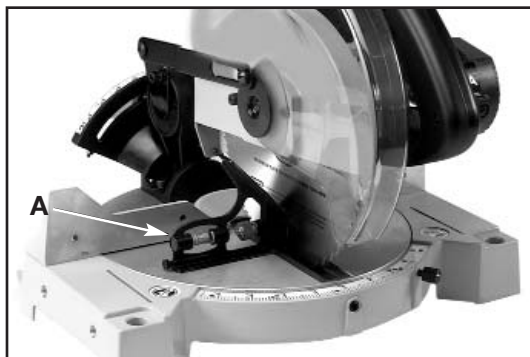
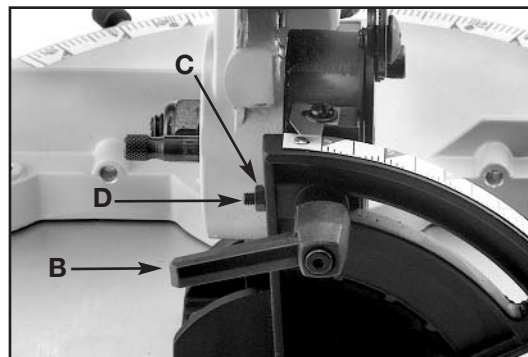

Fig. 22
Fig. 23
1. Move the cuttinghead to the 90 degree bevel stop position (Fig. 22), and tighten the bevel lock handle (B) Fig. 23.
2. Place one end of a square (A) Fig. 22 on the table and the other end against the blade. See if the blade is 90 degrees to the table.
3. To adjust, loosen bevel lock handle (B) Fig. 23 and tilt cutting arm until the blade is 90 degrees to the table. **NOTE:** It may be necessary to loosen locknut (C) and set screw (D) to accomplish this. Tighten bevel lock handle (B).
4. Loosen nut (C) Fig. 23 and tighten set screw (D) until it bottoms. Tighten locknut (C).